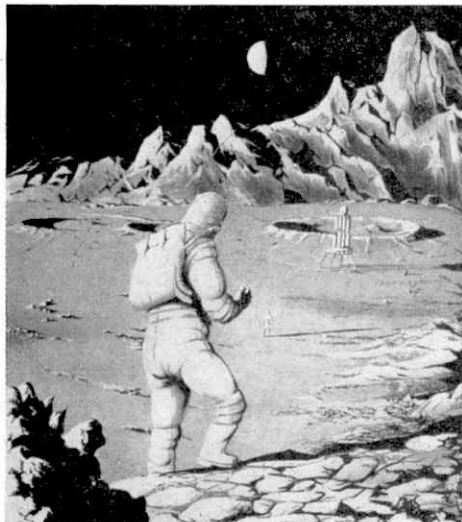

Fig. 3. Man on the surface of the Moon in a suit containing oxygen supply and equipment for removing water vapour. (Photograph by courtesy of Normalair, Ltd.)
*Pressure suits for the first man in orbit are now being made and from these will develop the first lunar suits looking, perhaps, like the one in Fig. 3.*